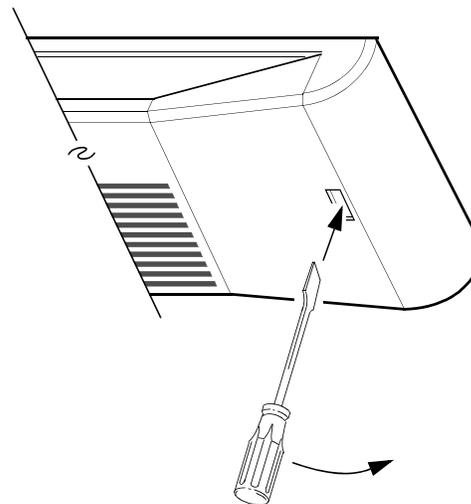

Figure 1. Front Panel Removal
2. Remove station front panel by inserting a small flat-blade screwdriver into one of two access holes at either end of the panel and, by carefully moving the handle of the screwdriver away from the center, release the front panel locking clip from the chassis and pull away the panel (refer to Figure 1).